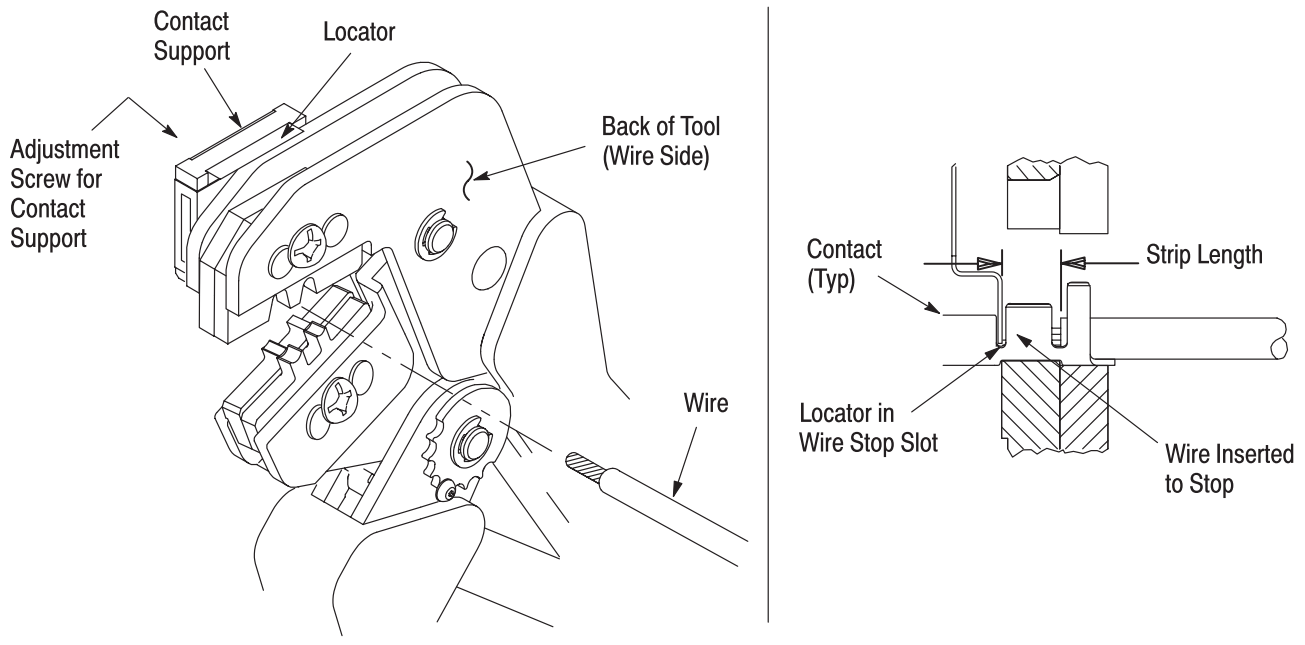

Figure 3
**4. CONTACT SUPPORT ADJUSTMENT** (Figure 3)
Refer to the table in Figure 1 and select wire of the specified size and insulation diameter. Strip the wire to the length indicated in Figure 1, taking care not to nick or cut wire strands. Select an applicable contact and identify the appropriate crimp section according to the wire size markings on the tool. Refer to Figure 3 and proceed as follows:
3. Position the contact so that the mating end of the contact is on the locator side of the tool, and so that the open “U” of the wire and insulation barrels face the top of the tool. Place the contact up into the nest so that the movable locator drops into the slot in the contact. Refer to Figure 3. Butt the front end of the wire barrel against the movable locator.
5. Insert stripped wire into contact insulation and wire barrels until it is butted against the wire stop, as shown in Figure 3.
**NOTE** The crimped contact may stick in the crimping area, but the contact can be easily removed by pushing downward on the top of the locator (see Figure 3).